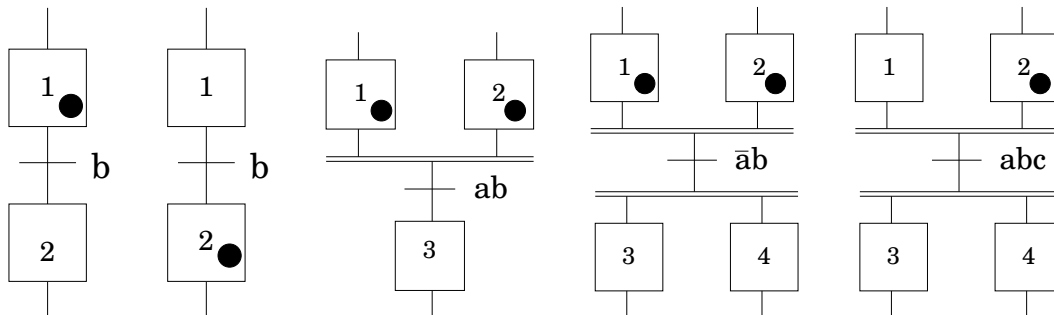

Figure 4 The five Grafcet diagrams in Problem 6.
6. What happens if the logical signal, b , becomes true in the functional diagrams in Figure 4.